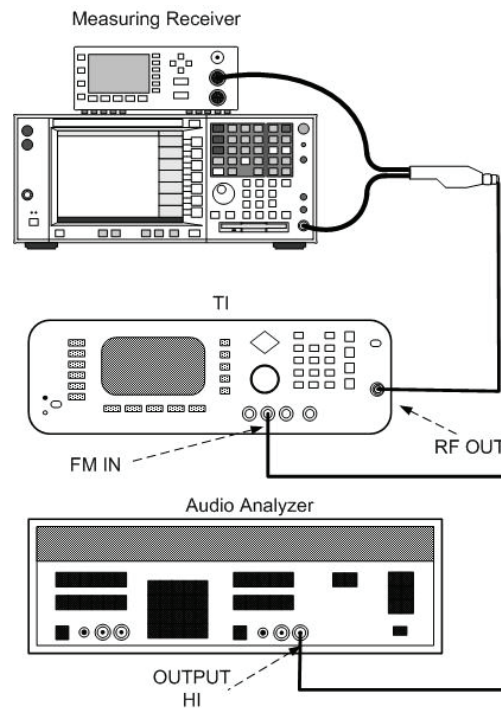

Figure 5. Frequency modulation hook-up.
(1) Connect equipment as shown in figure 5.